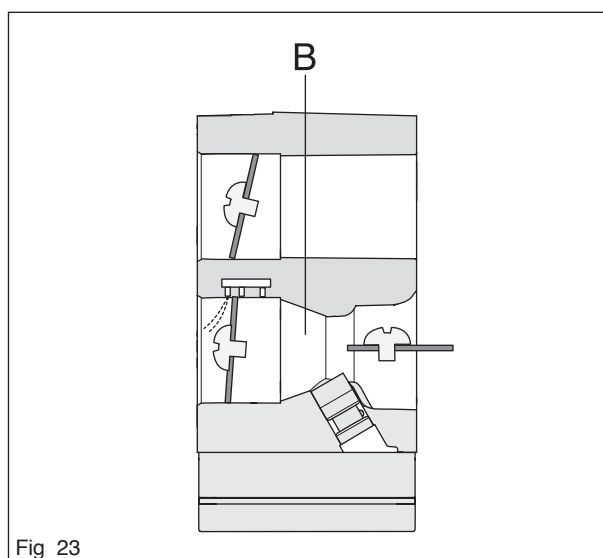

Fig 23
The mixing venturi (B) houses the choke, throttle valve and diffuser jets. Here air is mixed with the fuel to give a fuel/air mixture that can be ignited by the ignition spark (see figure 23).